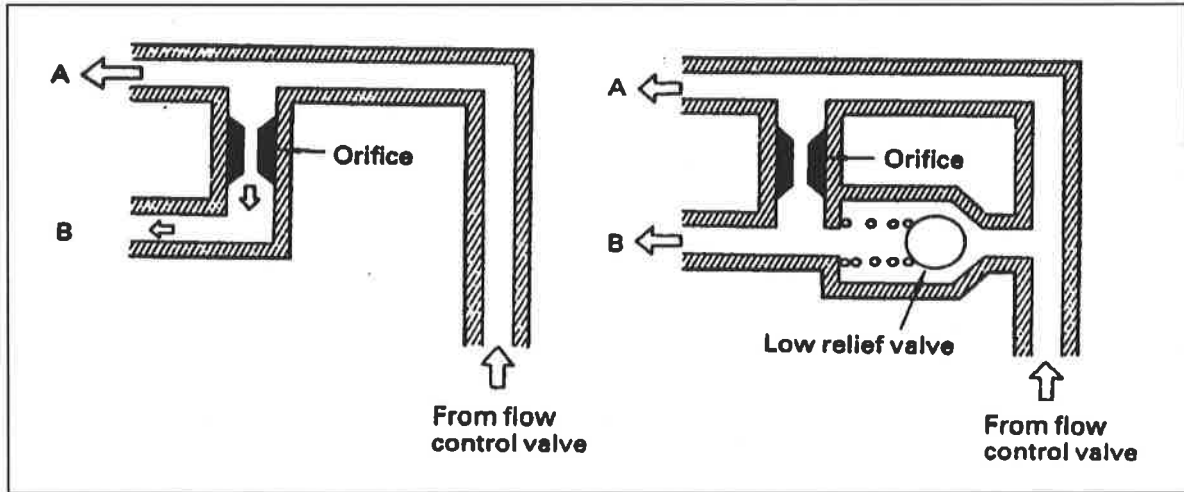

Figure 2: check valve operation
- a) By referring to figure 2, answer the questions below